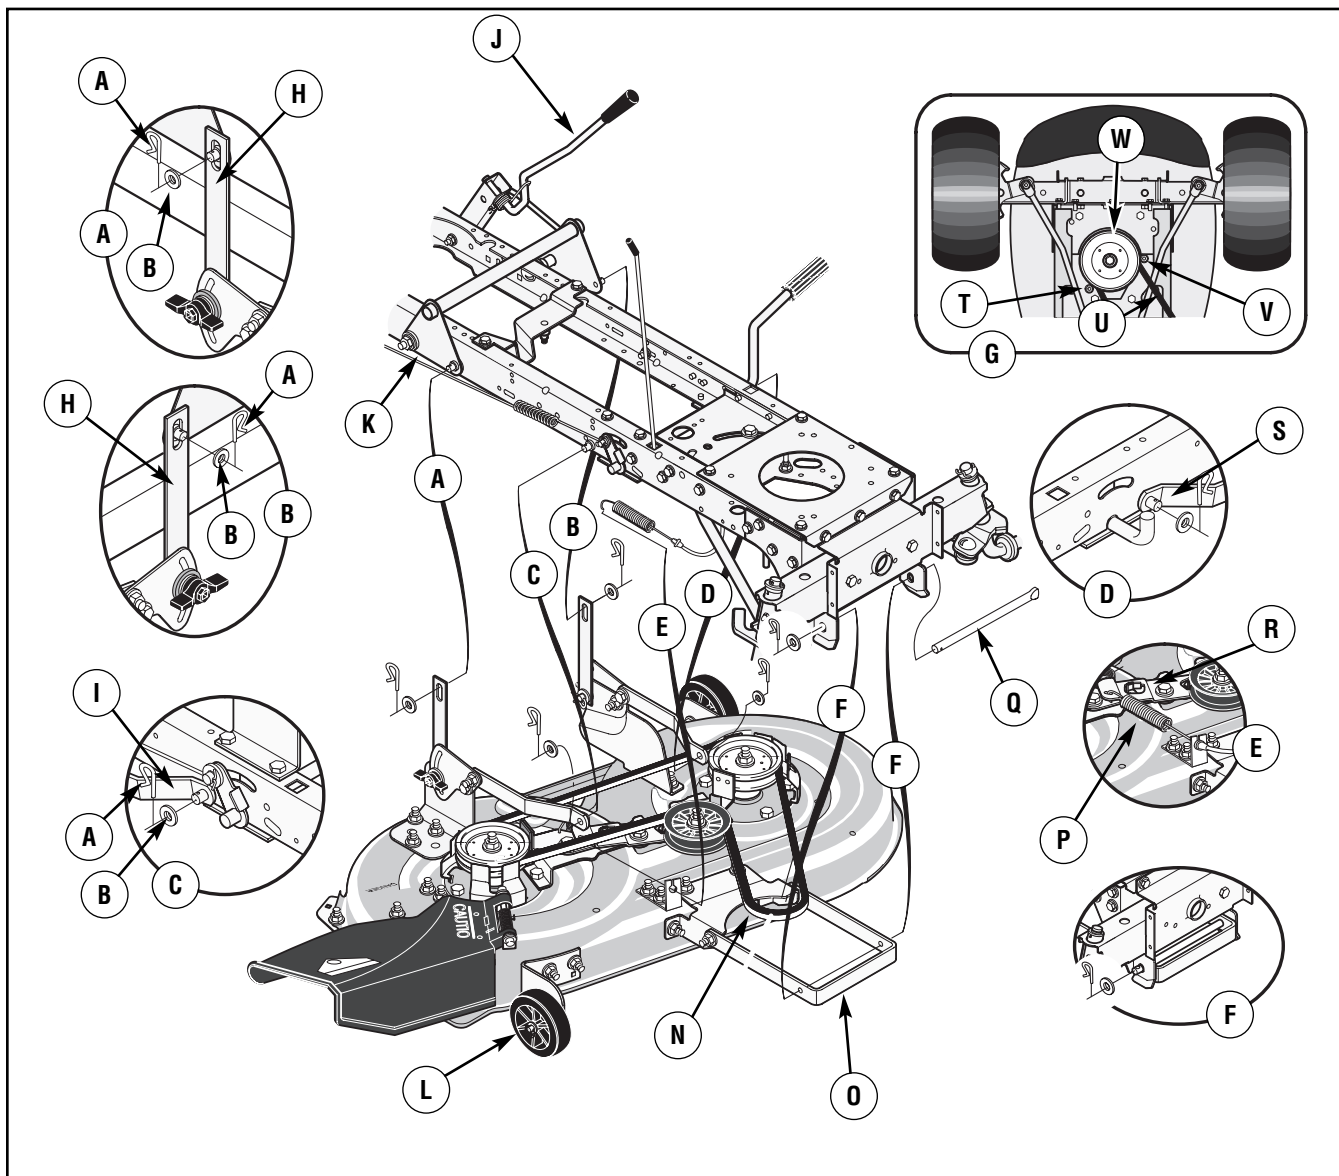

Figure 33: Mower deck assembly (42" models)
4. Remove the hair pins and the washers from the **adjuster arms** (Figure 33). See illustrations "C" and "D".